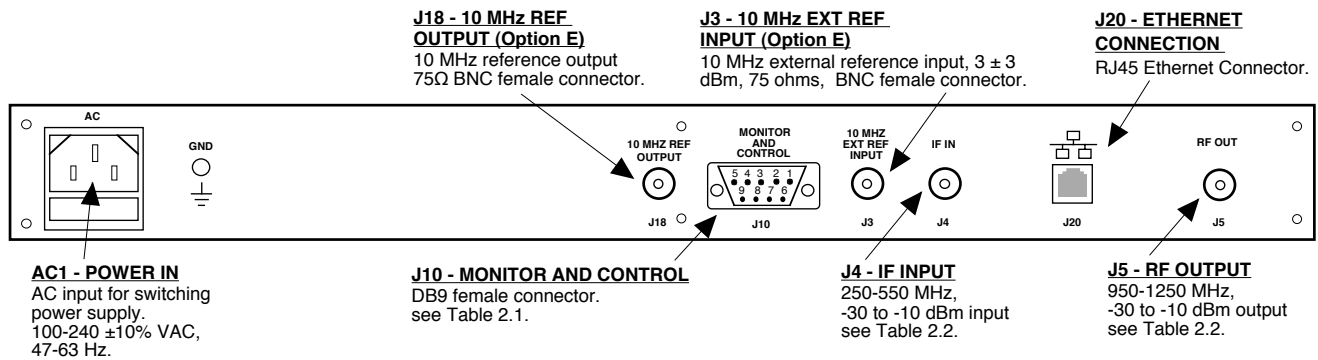

FIGURE 2.1 2083-0512 Rear Panel I/O's
Figure 2.1 shows the input and output connectors on the rear panel.
1. Connect a -30 dBm to -10 dBm signal to IF IN, J2 (Figure 2.1)